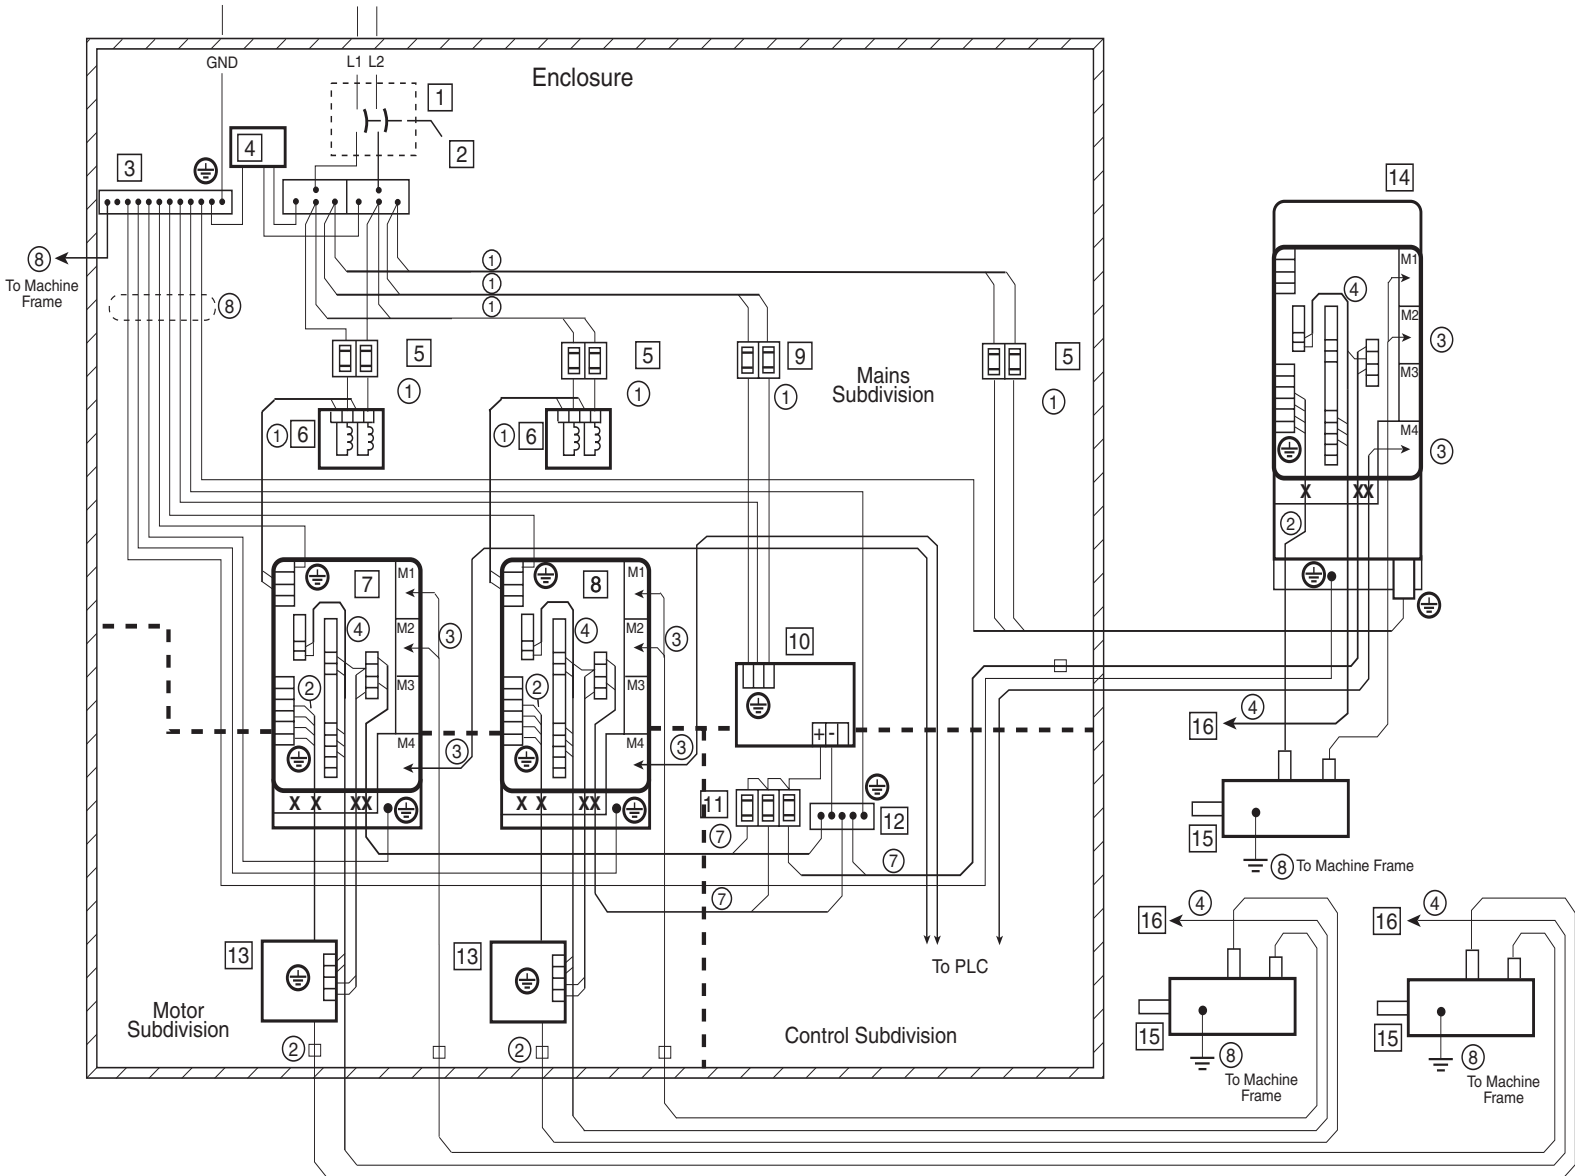

Fig. 4.1 EMC measures and subdivisions of the control cabinets
- The power amplifier and auxiliary equipment must be grounded before applying power. Refer to Fig. 4.1 and sections 4.4 and 4.5 of this manual for information concerning the proper grounding of Twin Line product.